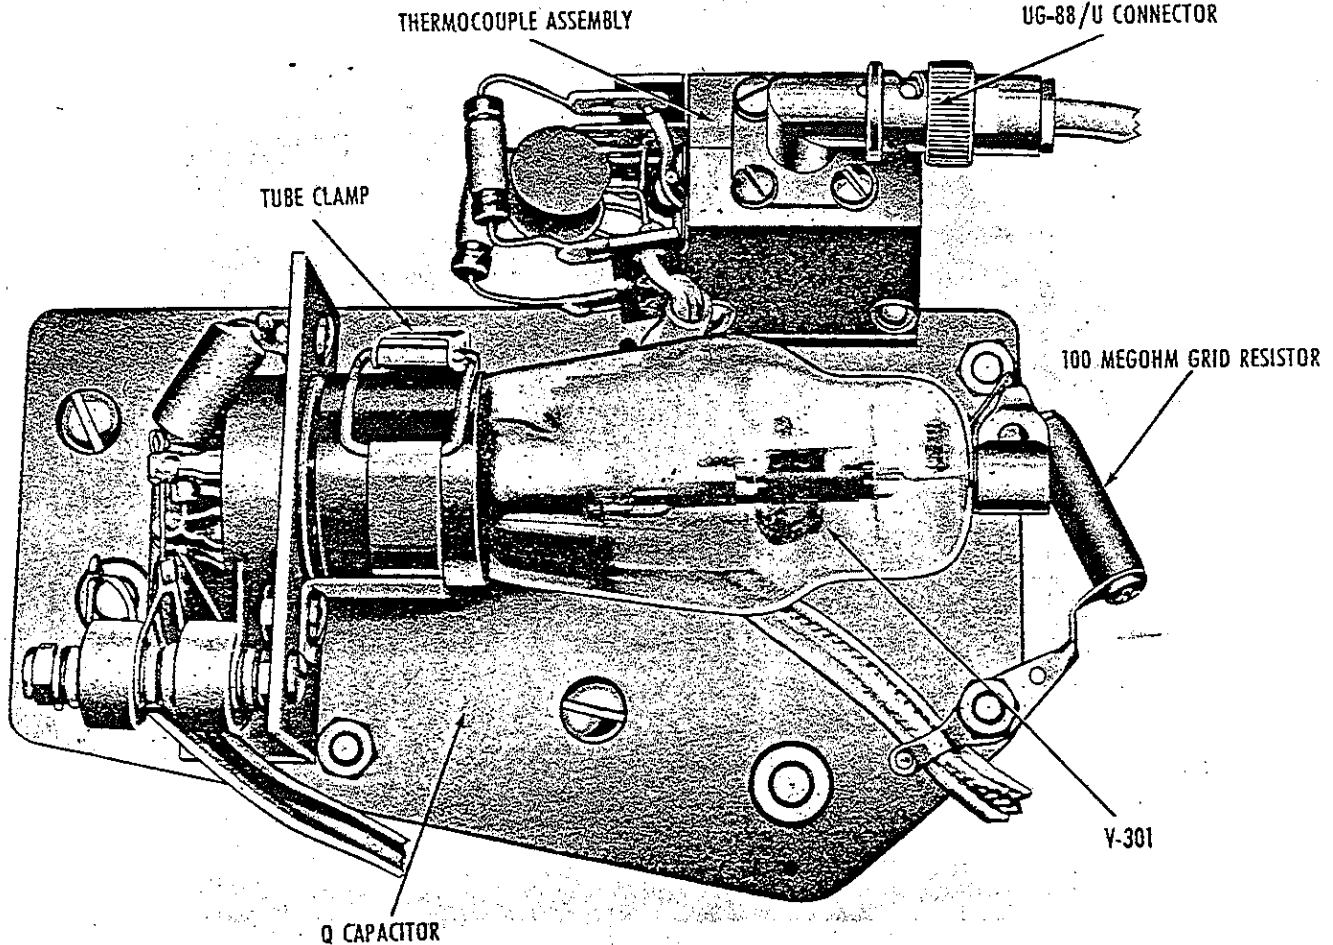

Figure VI-1 Resonating capacitor, Q voltmeter tube, and thermocouple assembly
The Q Meter Type 260-A may be used at frequencies below 50 KC by connecting the output of an external oscillator to the measuring circuit. A receptacle (shown in Figure VI-1) is provided for this purpose at the rear of the injection resistor housing. The external oscillator must be capable of delivering one ampere to a load of approximately 0.3 ohms. To meet this requirement, most oscillators will have to work through a matching transformer. The BRC Coupling Unit Type 564-A will match an impedance of about 500 ohms to the injection circuit from 50 KC to about 1 KC. Under these conditions the oscillator output level should be approximately 22 volts at the transformer primary.
a. Carefully remove the grid cap and release the clamp at the base of the tube (Figure VI-1).
a. Remove the UG-88/U plug from its receptacle at the rear of the thermocouple assembly (Figure VI-1).